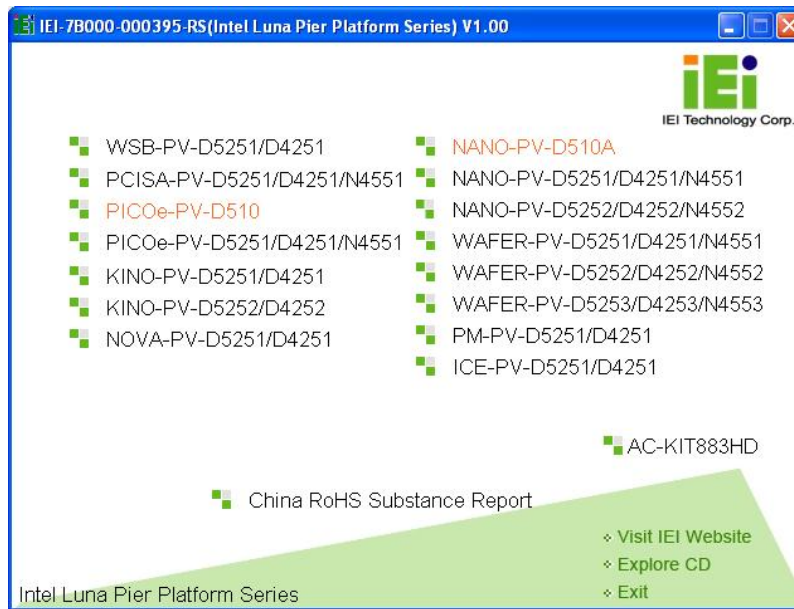

Figure 4-15: Introduction Screen
Step 2: The driver main menu appears (Figure 4-15).